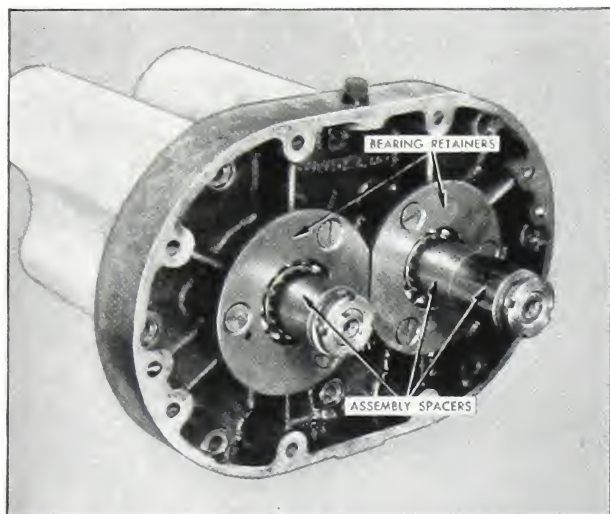

Fig. 10-10. Bearing Retainers and Temporary Assembly Spacers
13. Remove the three screws from each bearing retainer plate on the gear-end end plate and remove retainers. See Fig. 10-10.
6. Assemble the bearing retainers to end plate with lockwashers and flat head screws. See Fig. 10-10.
8. To check end clearance between rotors and end plate, use temporary spacers on the shafts and tighten in place with the shaft locknuts as shown in Fig. 10-10.